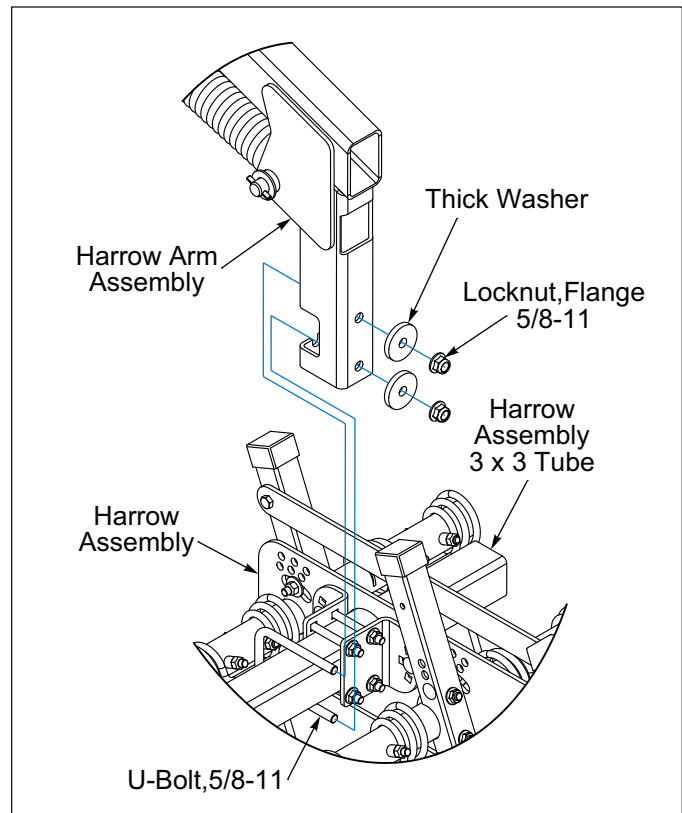

Figure 2-75: Harrow Arm Installation to Harrow Assembly
3. Attach the Harrow Assemblies to the Harrow Arm Assemblies by placing the 3 x 3 tube into the Arm Notch. Position 5/8-11 U-Bolt onto the 3 x 3 Tube and through the Harrow Arm Assembly. Secure with Thick Washers and Flange Nuts. **See Figure 2-75.**